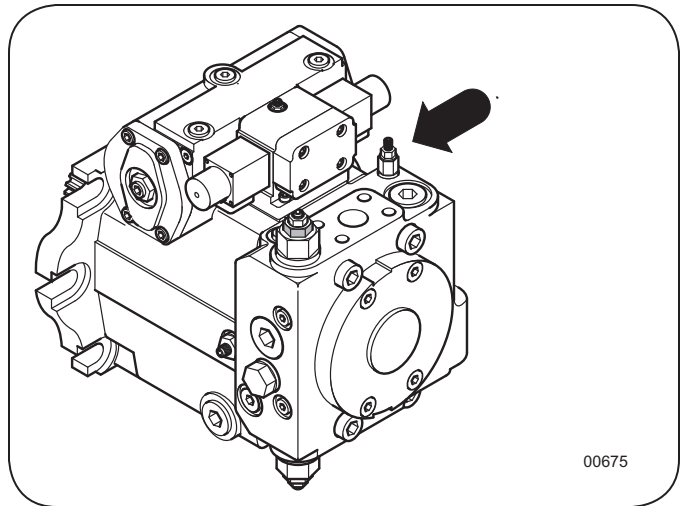

Figure 9: Drive POR Relief
6. Locate the POR relief on the track drive pump. See Figure 9. Use the 13mm wrench and 4mm allen wrench to loosen the jam nut on the POR relief adjustment setscrew.